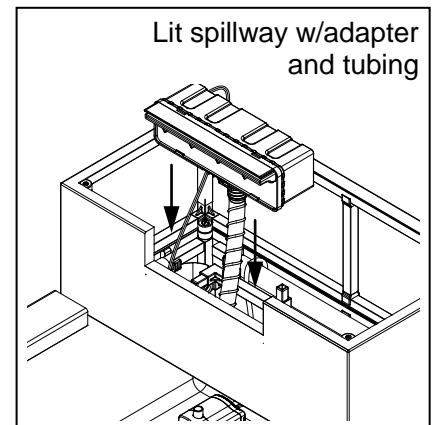

Fig. 4
4. Place the spillway w/adaptor and tubing to the upper section. Fig. 4